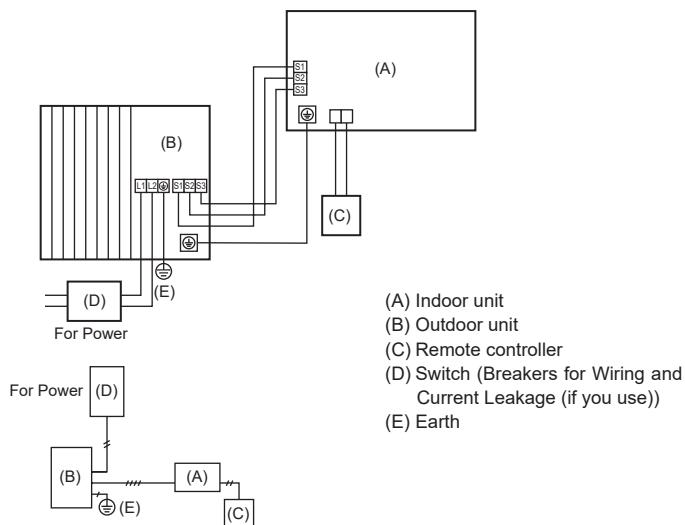

Fig. 6-1
6.1. Outdoor unit (Fig. 6-1, Fig. 6-2)
- Wire the cables referring to the Fig. 6-1 and the Fig. 6-2.